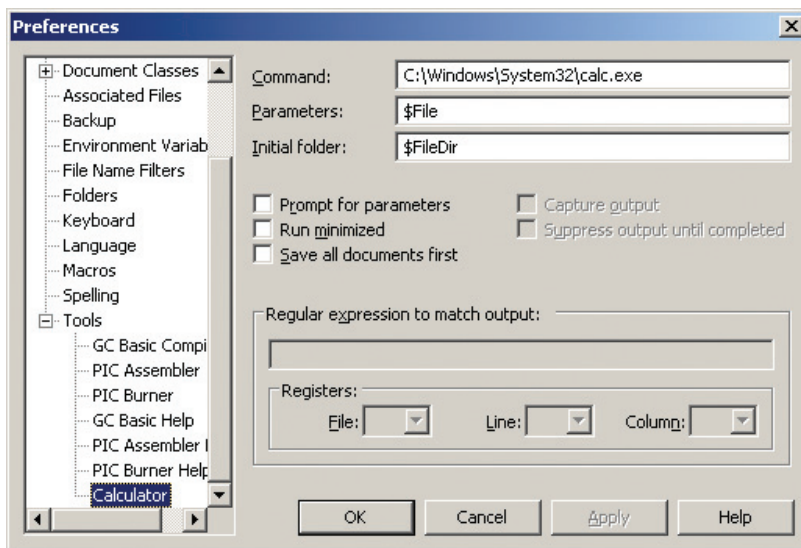

Figure 6: The tool entry box for the Windows calculator.
Figure 6 shows what the installation
Next, click the Object menu and Group so that now these two circles travel as a unit. You should have something that looks like **Figure 6**.
■ FIGURE 6. Drawing circles.